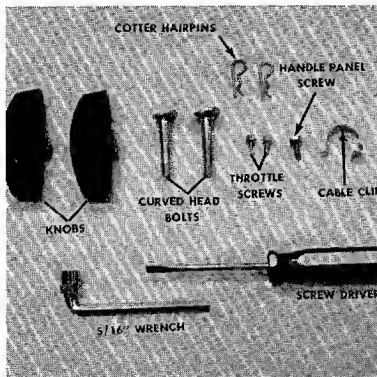

FIGURE 1. LOOSE HARDWARE AND TOOLS
1. Remove the loose hardware from the assembly pack. You will need a screw driver and a 5/16" wrench, either a socket as shown in figure 1 or an open end wrench.